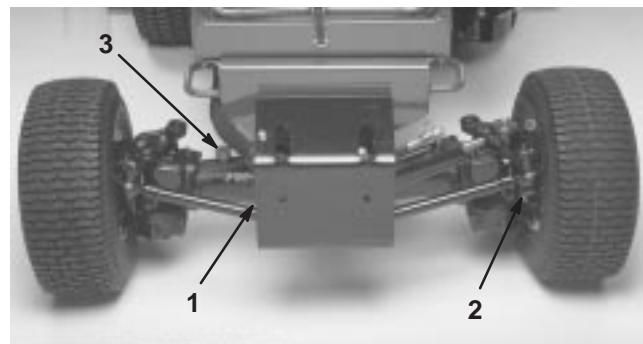

Figure 25
2. Remove check plugs from axle and make sure lubricant is up to bottom of each hole. If level is low, remove fill plugs and add enough lubricant to bring the level up to the bottom of the check plug holes (Fig. 25).